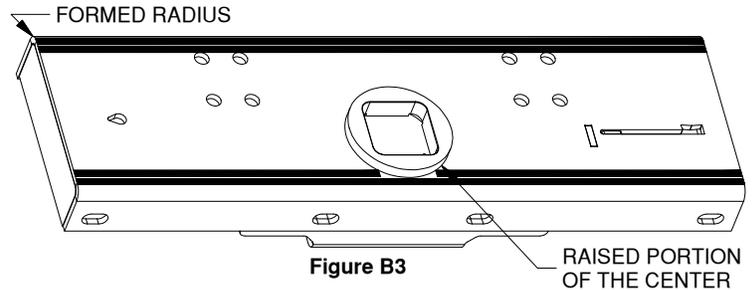

Figure B3
- 2. Apply polypropylene tape to center section.** As an added layer of protection a roll of polypropylene tape is included in the mounting kit box. Apply the tape to the top of the center section as follows, see Figure B3: